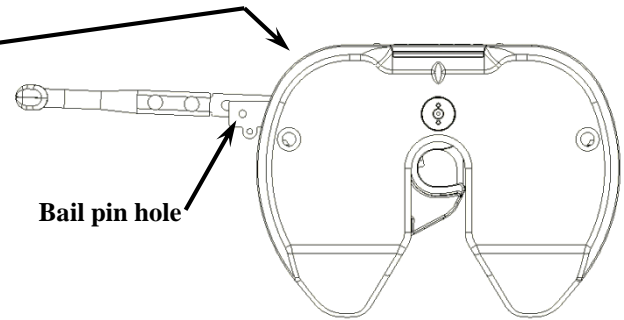

FIG. 10
- D. Make sure head is in Ready-to-Receive position (pg. 4, fig.10)